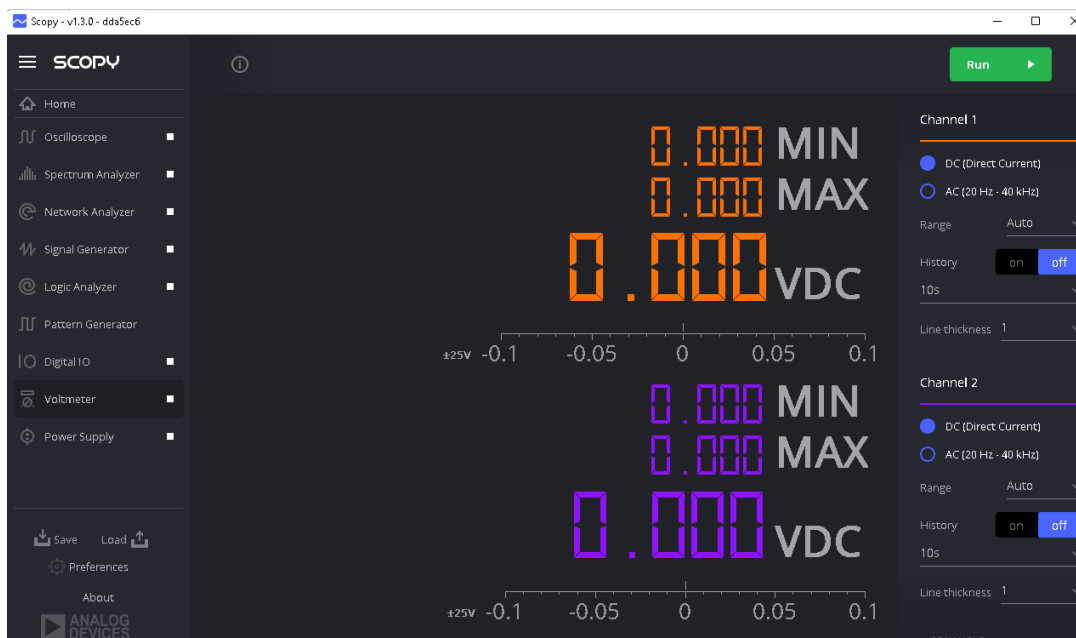

Fig. 11. Scopy Voltmeter Settings
3. In Scopy, click on the Voltmeter tab then apply the settings shown in Figure 11. On the righthand side, under Channel 1, select DC (Direct Current), set Range to Auto, turn off History. To test that your voltmeter is working properly, if you measure the value CD (voltage at C - voltage at D). To do this, connect your 1+ pin (green wire voltage probe) to point C and your 1- pin (black wire voltage probe) to Point D. Then click Run on the top right of the Voltmeter to measure the voltage. If your voltmeter reads ~0.08 volts, it is working properly. Repeat this step by moving the 1+ and 1- pins to the measurement points to complete the table below.